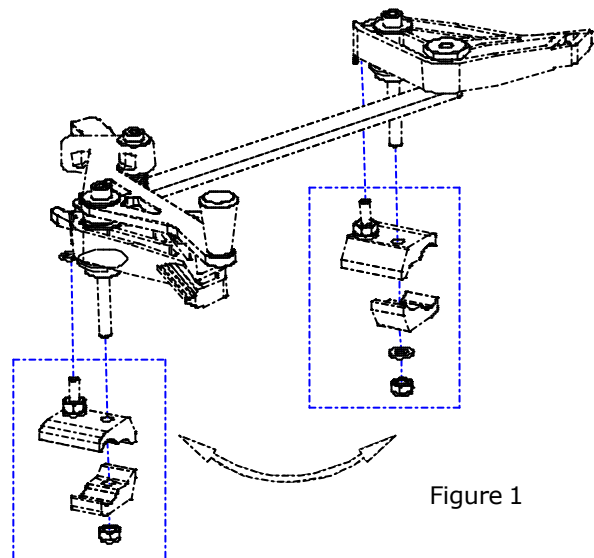

Figure 1
2. Unscrew the clamps, nuts and washers shown in Figure 1. (For the article numbers of these details, look at the instructions for assembly for the low brake).